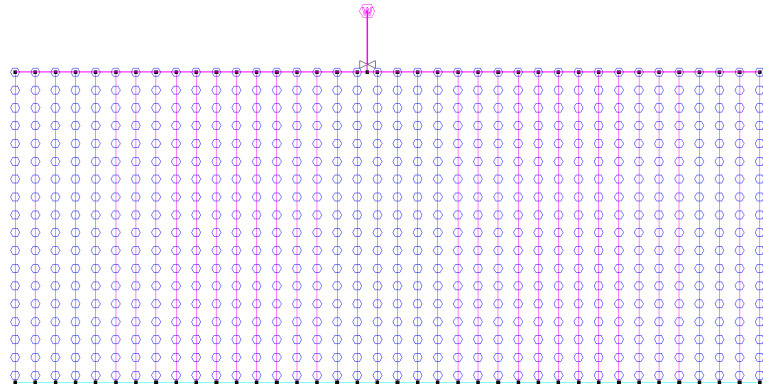

Figure 4-41
17. Select *Mainline|Water Supply*. Connect to the junction on the left end of the mainline pipe. Accept the default name of Supply No. 1. Do not enter any flow or pressure requirements (IRRICAD will assume that the water supply is unrestricted and will determine these requirements during design and analysis). Click [OK]. Select *File|Save* and save the design as demo2.des. This completes the entry of the hydraulic components of the design. Your design should look like Figure 4-41.